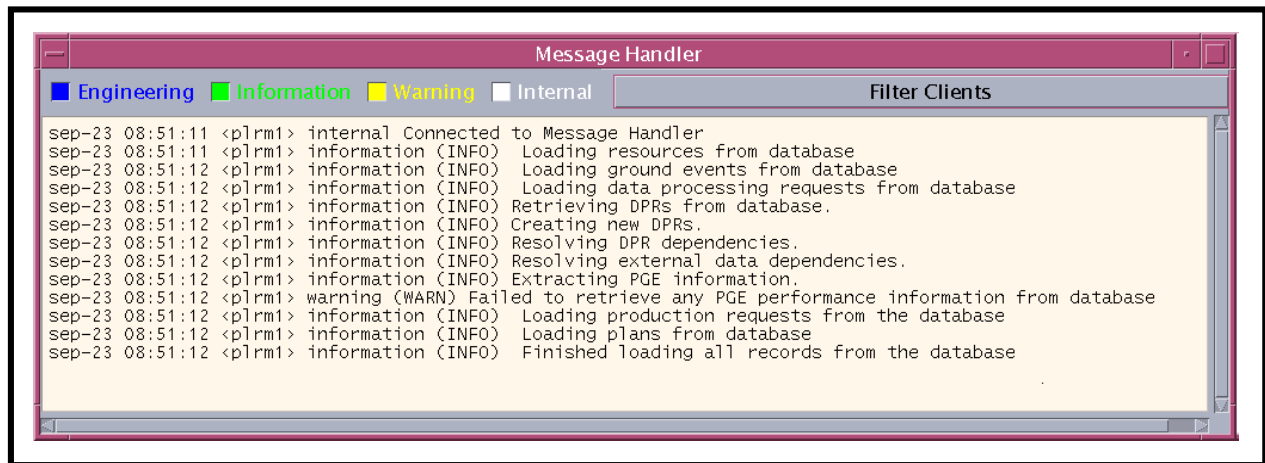

Figure 28. Message Handler GUI
- The **Message Handler** GUI (Figure 28) is displayed.